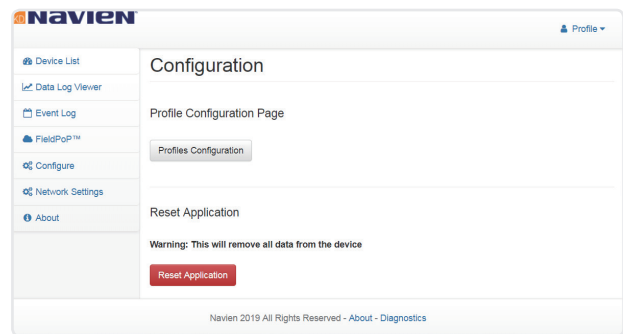

Figure 18: Configure Tab
- The SMC Cloud™ tab (see Figure 18) allows users to connect to the SMC Cloud, Sierra Monitor's device cloud solution for IIoT. The SMC Cloud enables secure remote connection to field devices through a FieldServer and its local applications for configuration, management, maintenance. For more information about the SMC Cloud, refer to the SMC Cloud Start-up Guide.